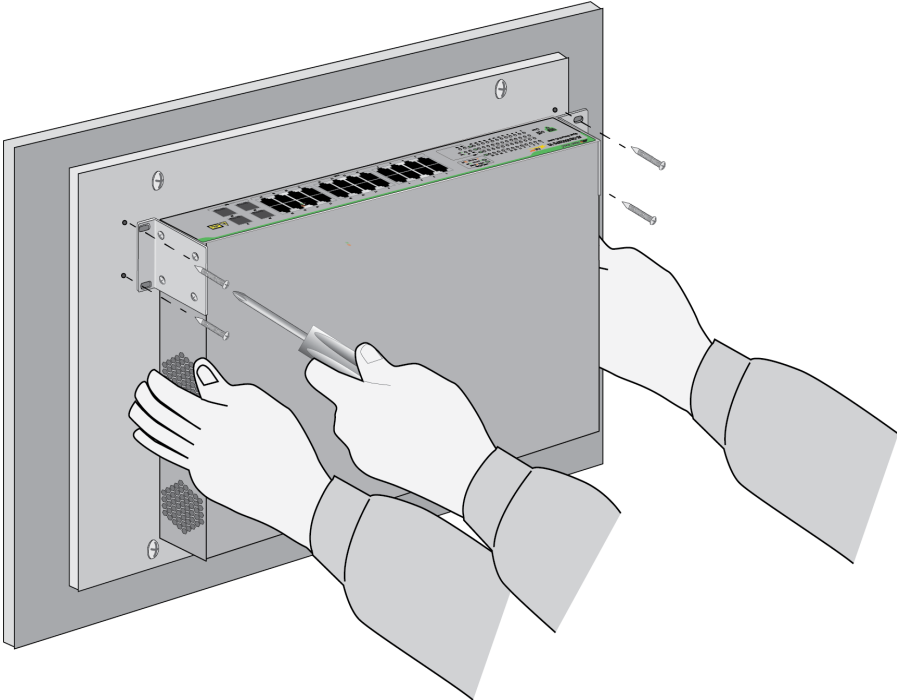

Figure 31. Attaching the Switch to the Plywood Base
3. After attaching the brackets to the side of the switch, have another person hold the switch on the plywood base on the wall while you secure it with the four provided screws. Refer to Figure 31 on page 67.